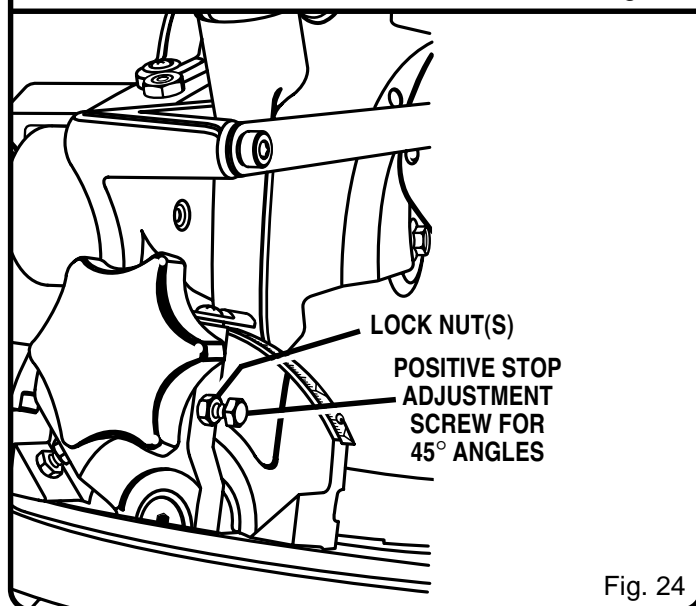

Fig. 24
- Adjust positive stop adjustment screw to bring saw blade into alignment with the square. See Figure 24.